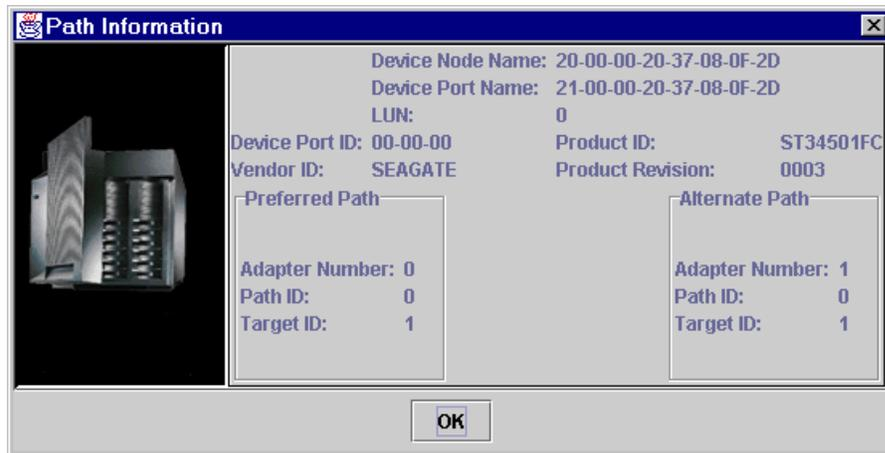

Figure 48. Path Information window
1. Right-click the cell for the device in the Adapter n column. The Path Information window is displayed for the path (see Figure 48 on page 55).